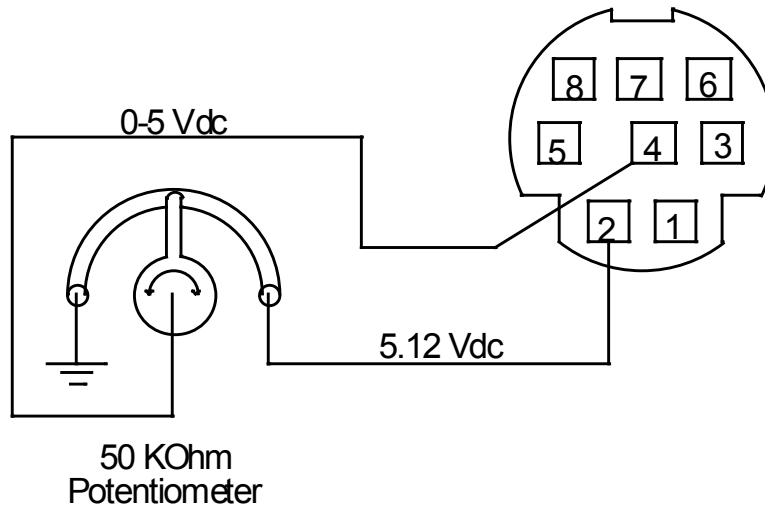

Figure 3. Simple Method for Providing Set-Point to Controllers
**Note:** Upon initial review of the pin out diagram in Figure 2, it is common to mistake Pin 2 (labeled 5.12 Vdc Output) as the standard 0-5 Vdc analog output signal! In fact Pin 2 is normally a constant 5.12 Vdc that reflects the system bus voltage and can be used as a source for the input signal. This allows the user in the field to run this output through a 50K ohm potentiometer and back into the analog set-point pin to create a 0-5 Vdc set-point source (see Figure 3).
Unless ordered otherwise, 0-5 Vdc is the standard analog input signal. Apply the 0-5 Vdc input signal to pin 4, with common ground on pin 8. The 5.12 Vdc output on pin 2 can be wired through a 50K ohm potentiometer and back to the analog input on pin 4 to create an adjustable 0-5 Vdc input signal source as in Figure 3 below.